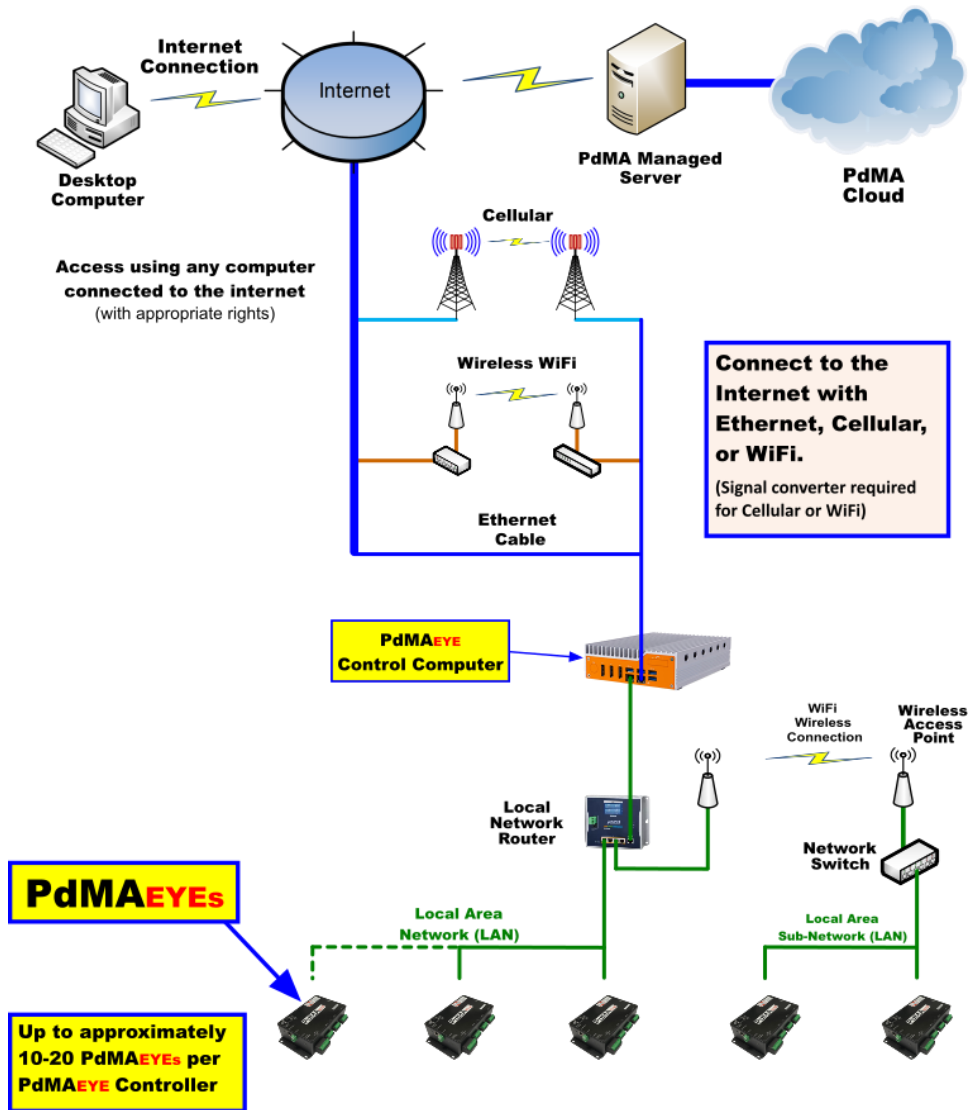

Figure 1 - PdMAEYE System Overview
- PdMAEYE System – describes the overall PdMAEYE monitoring system for electric motors and generators that is permanently installed at a customer’s industrial facility. The system is used to determine the “health” of electric motors and generators. See Figure 1 - PdMAEYE System Overview.
This guide will provide an overview of installing and connecting the PdMAEYE System which consists of PdMAEYE(s), a PdMAEYE Control Computer and associated network hardware, PdMA Cloud, MCEGold® Software, and PdMAEYE Mobile Application. Figure 1 shows an overview of the PdMAEYE System. Connection to the PdMA Cloud can use any method of connecting to the internet such as Ethernet Cable, Wireless Wi-Fi, Cellular, etc.
Individual PdMAEYEs can be connected to the Local Area Network Router using Ethernet Cable or Wi-Fi Access Point hardware. When more than four PdMAEYEs are connected to the PdMAEYE Control Computer an additional POE Network Switch will be required (see Figure 1).